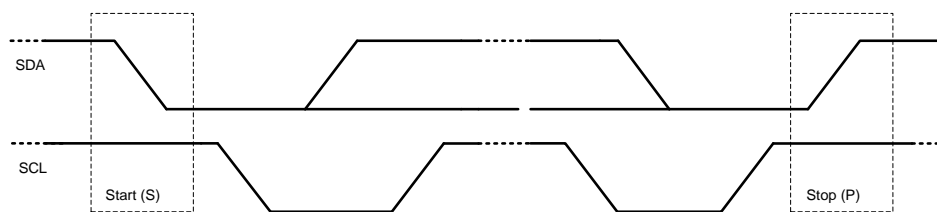

Figure 11: Start and Stop Conditions
All transactions begin with a start command (S), and can be terminated by a stop command (P). A high-to-low transition on the SDA line while SCL is high defines a start condition. A low-to-high transition on the SDA line when SCL is high defines a stop condition (see Figure 11).